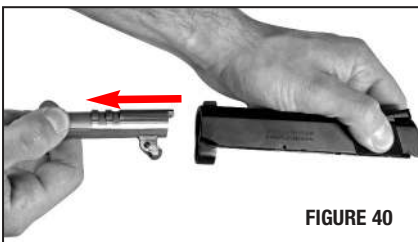

FIGURE 40
- Remove the barrel through the front of the slide (FIGURE 40).